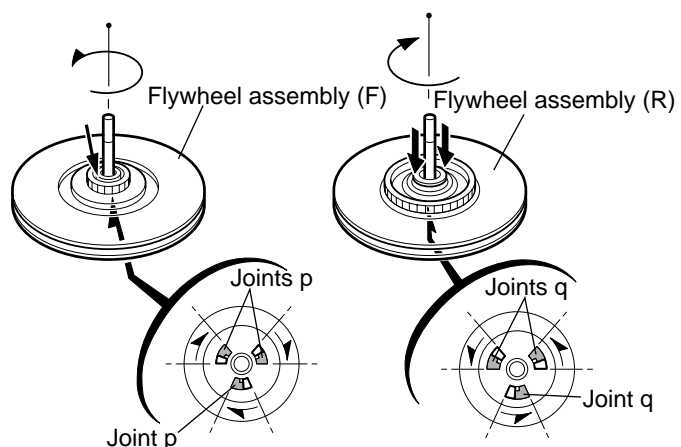

Fig.20
■ Disassembling the flywheel assembly (F) (See Fig.20 and 21)
1. Push and turn counterclockwise the spring holder (F) to release the three joints **p** on the bottom of the flywheel.
2. The spring holder (F), the TU spring and the friction gear play come off.
■ Disassembling the flywheel assembly (R) (See Fig.20 and 22)
1. Push and turn clockwise the spring holder (R) to release the three joints **q** on the bottom of the flywheel.
2. The spring holder (R), the FF spring and the friction gear FF come off.